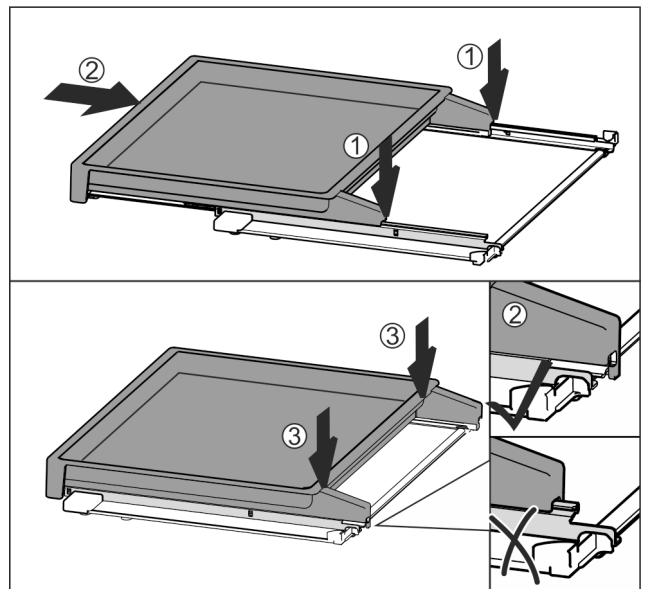

Fig. 115
- Place centrally on the rails Fig. 115 (1).
- Slide the pull-out board all the way in Fig. 115 (2).
- Press down at the back until it clicks into place Fig. 115 (3).